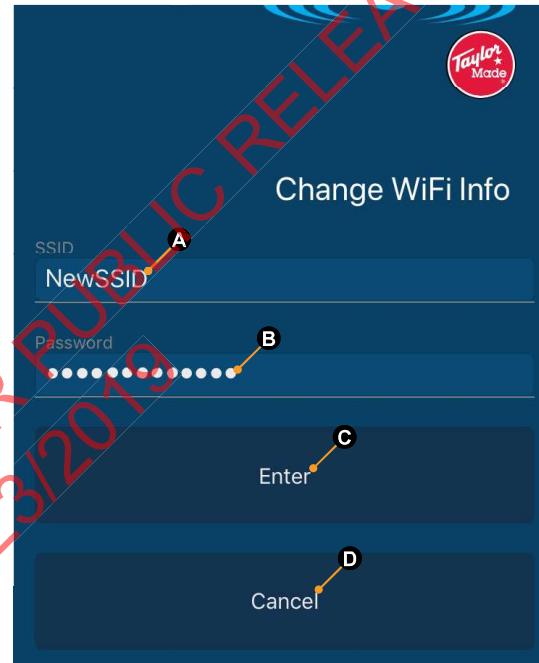

Fig.16
2. To change the WiFi SSID name, tap the right bracket (>) to display the Change WiFi Info screen (Fig.16).